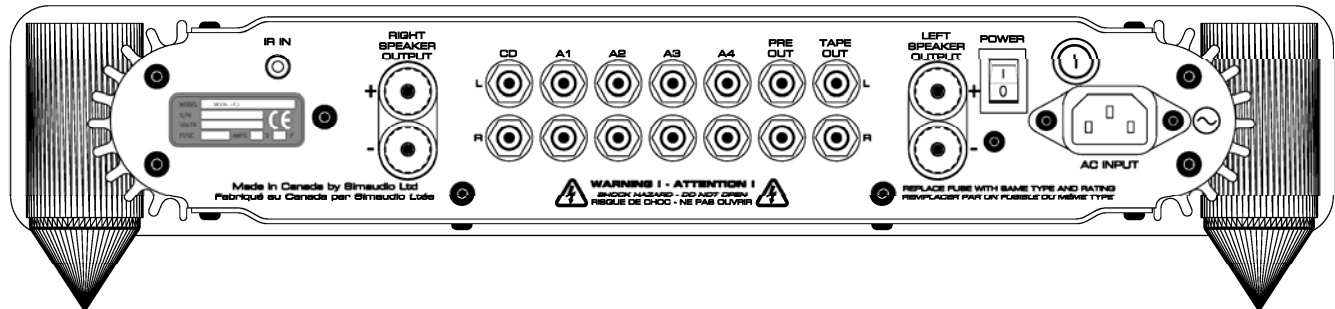

Figure 2: MOON i 5.3 Rear panel
The rear panel will look similar to Figure 2 (above). There are five (5) pairs of single-ended inputs on RCA connectors labeled CD, A1, A2, A3 and A4. The left channel inputs are located on top and the corresponding right channel inputs are located directly below. The A4 input, as previously mentioned, bypasses the gain stage and is intended to be used with a component, such as a home theater processor, that has its own volume/gain control.